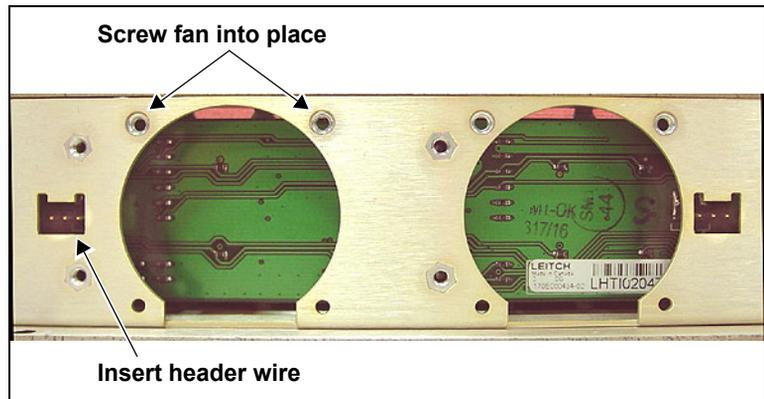

Figure C-39. Replacing a Fan within the Assembly
6. Fasten a new fan into place on the assembly with the supplied screws. (See Figure C-39.)